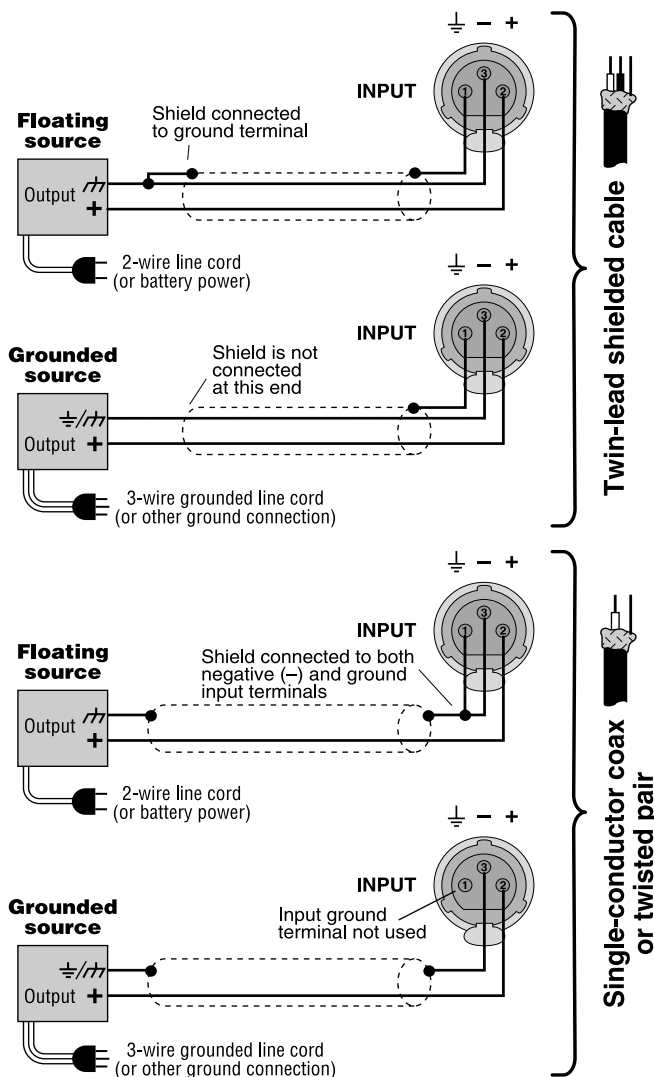
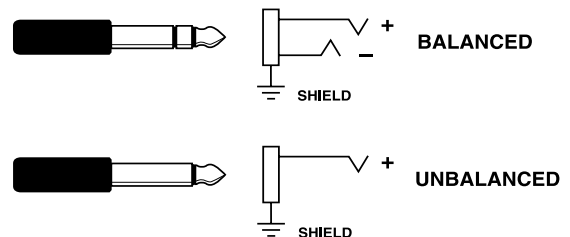

Fig. 3.7 Unbalanced Input Wiring
Fig. 3.9 Balanced and Unbalanced Phone Plug Wiring
Both the XLR and 1/4-inch phone jack inputs are balanced. They have a minimum impedance of 10 K ohms (5 K ohms with unbalanced wiring) and will accept the line-level output of most devices. The XLR connectors and phone jacks are provided on the standard PIP2-FXQ input module (other PIP and PIP2 modules are described in Section 8.1). Correct input wiring will depend on two factors: (1) whether the input signals are balanced or unbalanced, and (2) whether the signal source floats or has a ground reference. Figures 3.7 and 3.8 show the recommended XLR connection techniques for each type of signal source.
The phone jack input connectors can be wired similarly for balanced or unbalanced, ground-referenced or floating sources. They have a standard tip-ring-sleeve (TRS) configuration: the tip is positive (+), the ring is negative (-) and the sleeve is ground (see Figure 3.9). Wiring for various sources follows the XLR wiring guidelines shown in Figures 3.7 and 3.8.